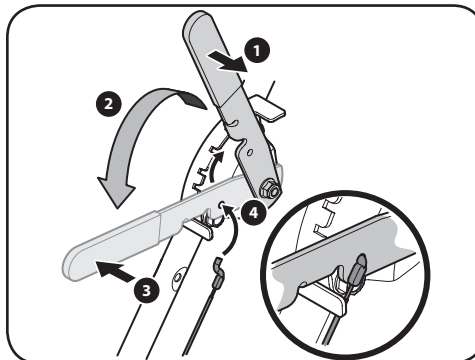

Figure 3-4
4. Hook the Z end of the depth control cable into the hole on the depth control lever See Figure 3-4.